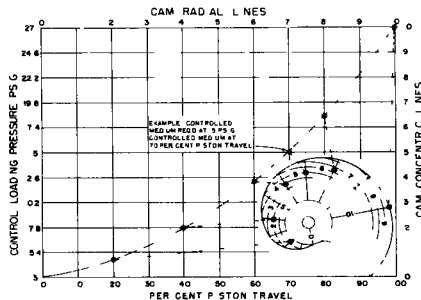

FIGURE 15 - Locating Points for Shaping Cam
a. On the cam selected in step 4 above, locate, for each increment of control loading pressure (concentric lines) that Drive piston position (radial lines) required for the specific loading pressure, as determined in step 4. Refer to Figure 15 for the method of locating these points